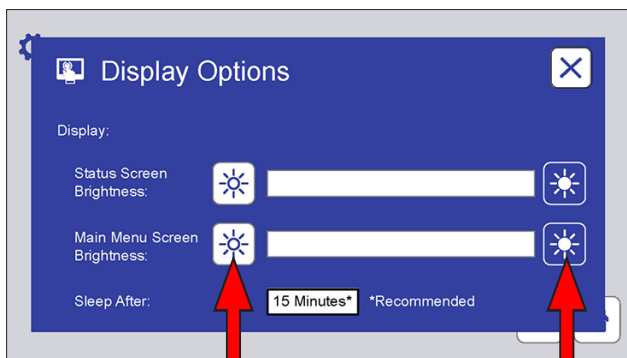

Figure 11.7e: The Display Options screen provides controls to adjust the brightness of the status and menu screens. Touch a brightness icon to adjust.
- o Display Options (Figure 11.7e)